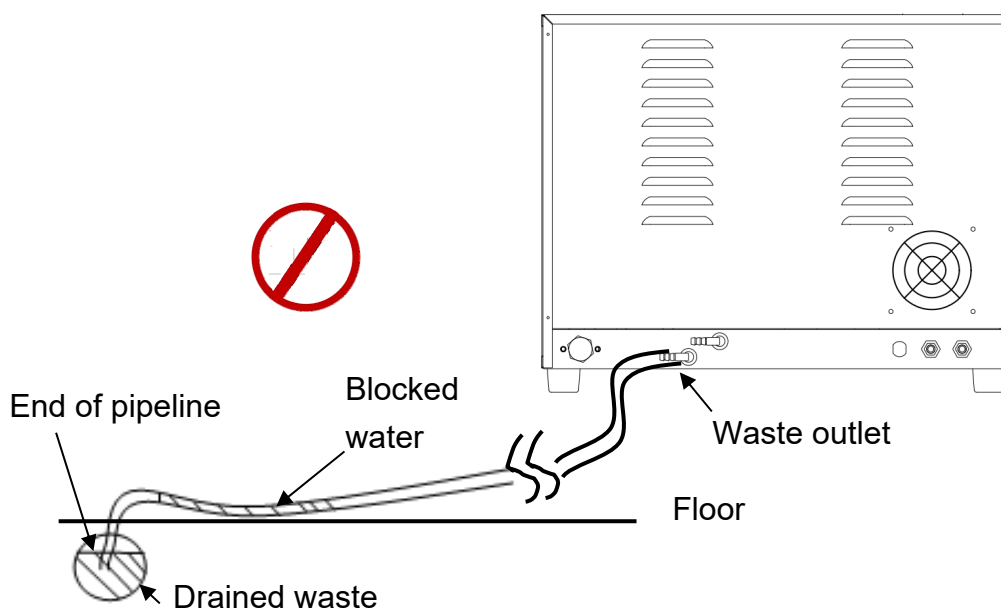

Figure 24
**WARNING:** Examine that pipelines connected from “waste outlet” is not obstructed by the over-bending as shown in Figure 24.